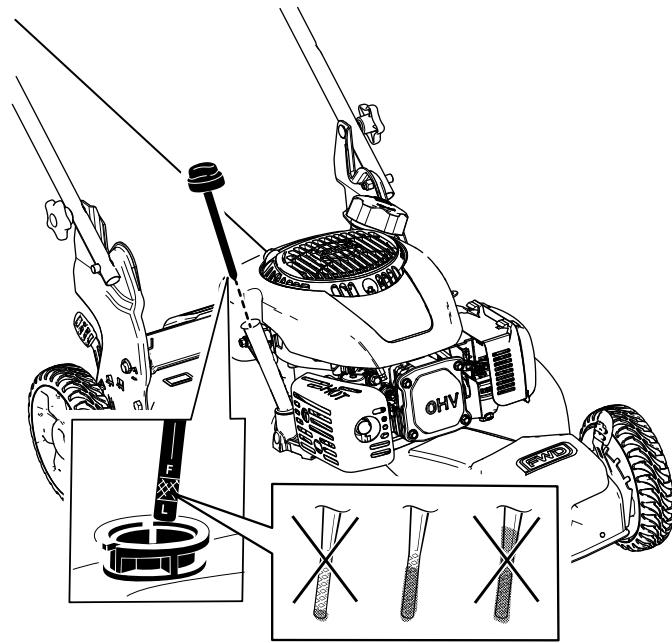

Figure 23
3. Remove the dipstick by rotating the cap counterclockwise and pulling it out (Figure 23).
4. Tip the machine onto its side (so that the air filter is up) to drain the used oil from the oil-fill tube (Figure 23).
10. Read the oil level on the dipstick (Figure 23).